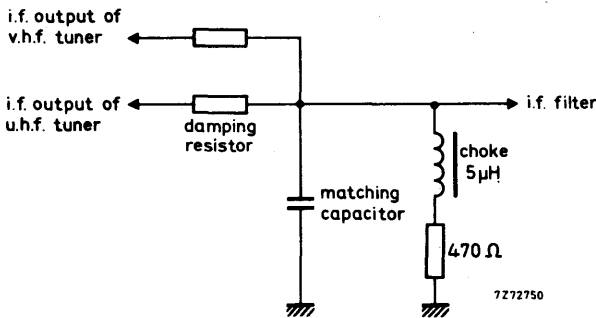

Fig. 8.
The tuner needs a d.c. path from the i.f. output terminal (10) to earth, preferably via a choke of approx. 5  $\mu$ H outside the tuner (Fig. 8). Where the tuner is used in combination with a v.h.f. tuner, this choke can be common for both tuners; a resistor in series with the choke can make ineffective the i.f. output circuit of the switched-off tuner. For damping the i.f. output circuit and matching the i.f. output impedance of the tuner to the i.f. amplifier, a series resistor and a parallel capacitor as shown in Fig. 8 should be used.